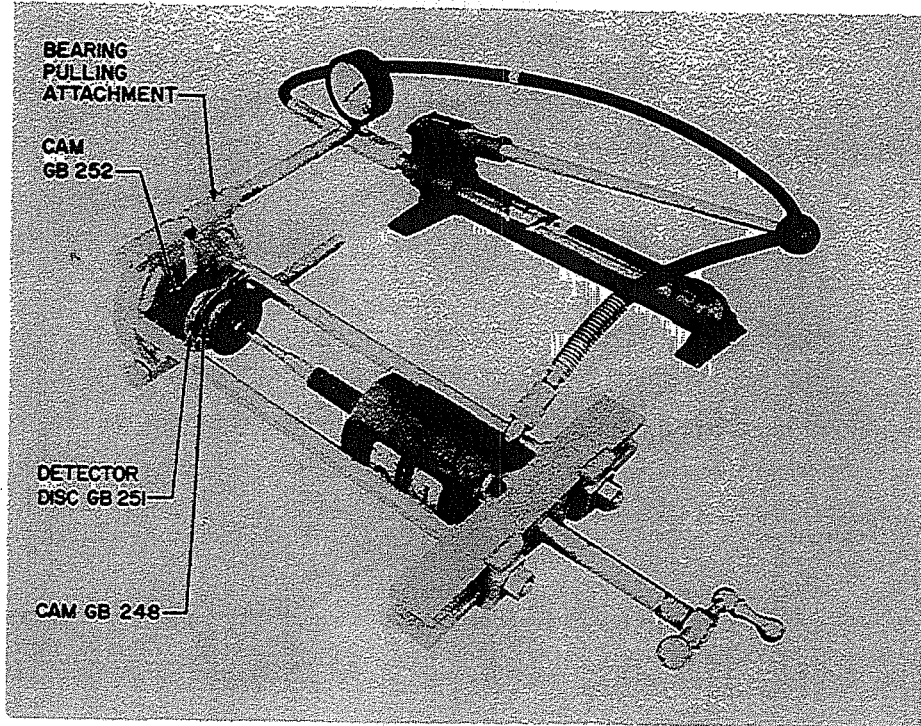

Figure 47. Detector, Installation of Cam GB252
- W. Secure the bearing pulling attachment behind Out-of-Range Selector Cam GB252 and install (figure 47).